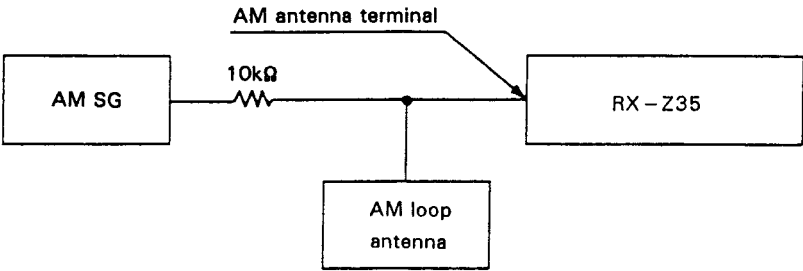

Fig. 4–2 AM adjustment connection diagram
- Connect the tuner as shown in Fig. 4–2.